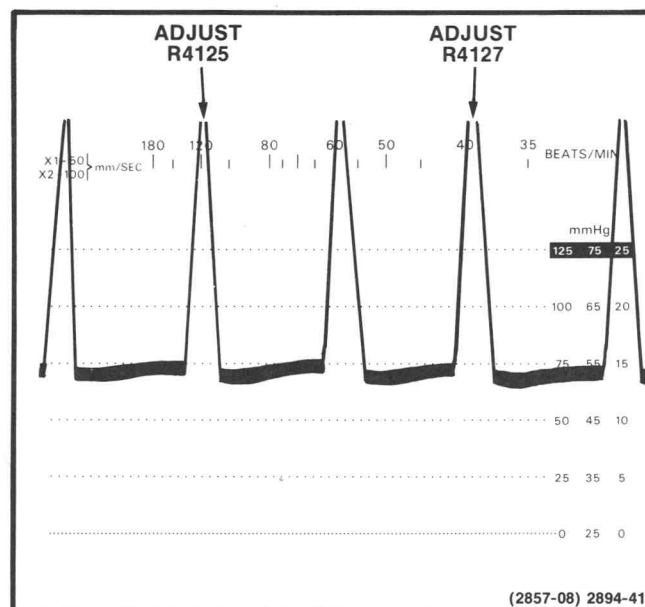

Fig. 4-12. Horizontal Position and Width adjustments.
h. **ADJUST**—Horizontal Position (R4127, Main board) to set rising edge of fourth pulse to 40 BPM mark (see Fig. 4-12).
i. **ADJUST**—Horizontal Width (R4125, Main board) to move rising edge of second pulse to 120 BPM mark (see Fig. 4-12).